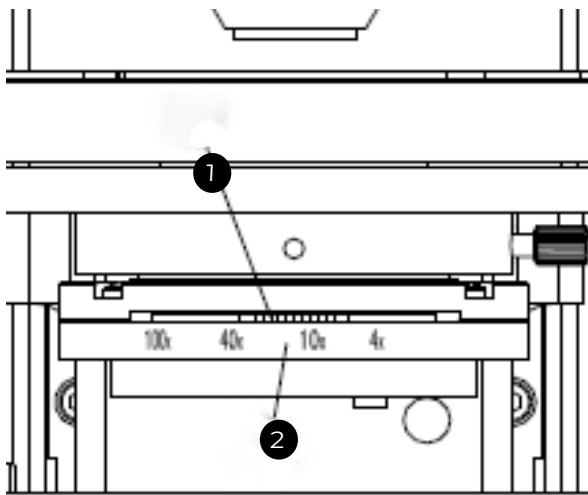

Fig. 11
3. If the contrast of your sample is low, adjust the condenser diaphragm towards the objective magnification indicated on the condenser 1, i.e., adjust the numerical 2 aperture of the condenser 70%-80% of the objectives numerical aperture (See Fig. 11)